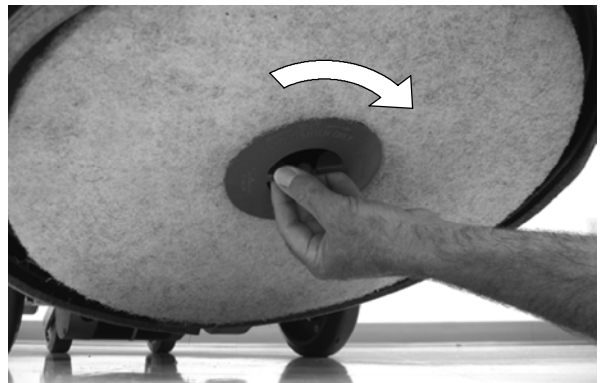

FIG. 6
- Attach the pad to the pad driver and secure pad with centerlock (Figure 6).